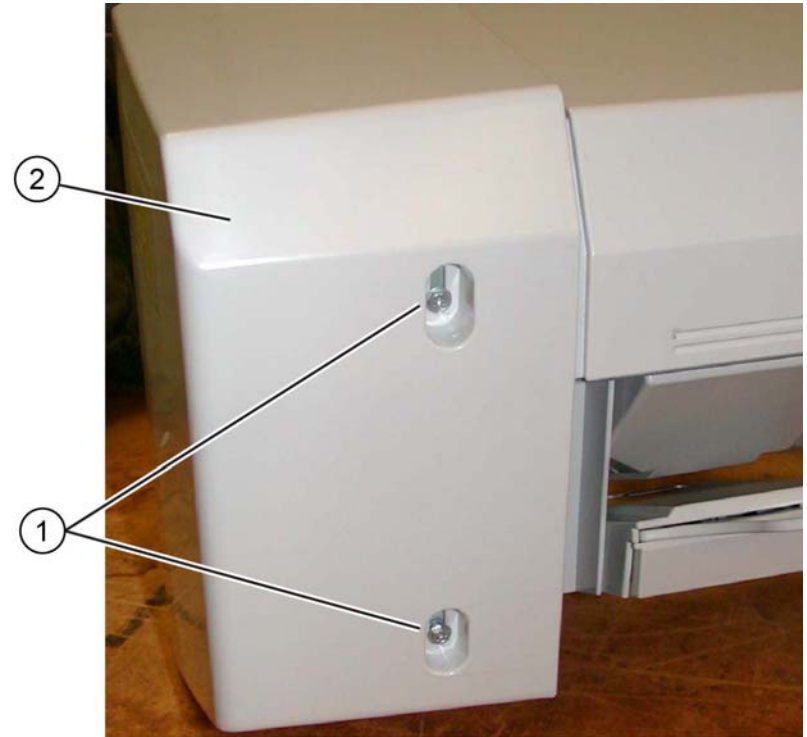

Figure 2 Booklet front cover removal
3. Remove two screws (1), then the booklet front cover (2), Figure 2.